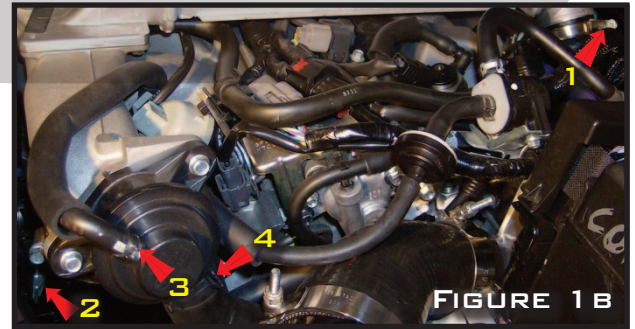

FIGURE 1B
B. LOOSEN THE HOSE CLAMPS ON THE INLET AND OUTLET OF THE TOP MOUNT INTERCOOLER AS SHOWN IN FIGURE 1B, ITEMS 1 & 2. THE CLAMPS ARE CONVENIENTLY GLUED ONTO THE HOSES SO THEY WON'T ROTATE, YOU JUST HAVE TO LOOSEN THEM. USE YOUR NEEDLE NOSE PLIERS TO LOOSEN THE HOSE CLAMPS ON THE RECIRCULATION VALVE (SHOWN IN FIGURE 1B, ITEMS 3 & 4 AND PULL THE RECIRC HOSES FREE OF THE VALVE.)